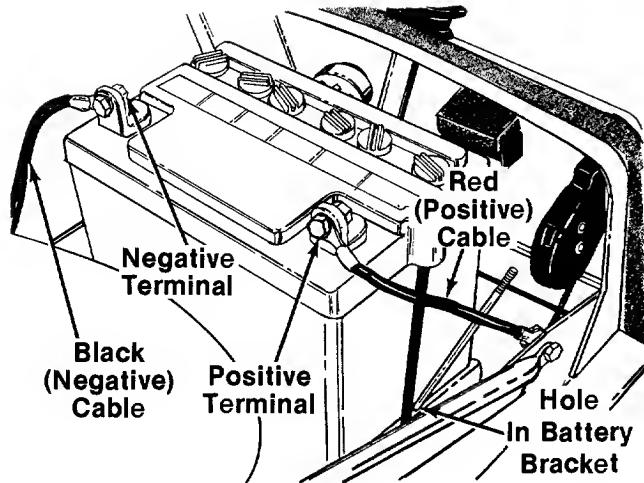
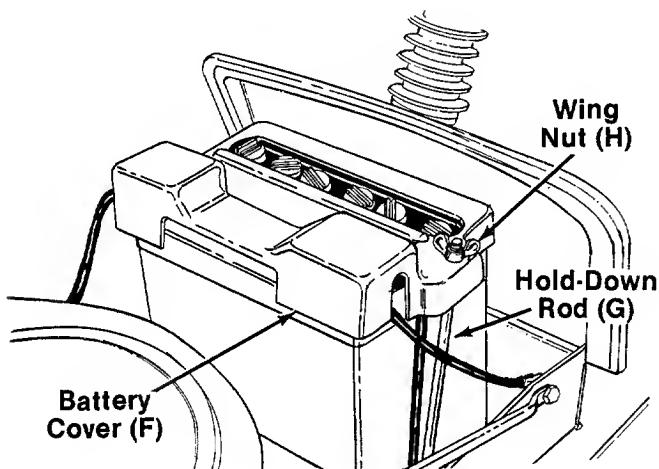

FIGURE 6.
FIGURE 7.
2. Place the battery in the lawn tractor so that the positive terminal is facing the left side of the unit. See figure 6.
3. Slide the square nut (provided with battery hardware) into the positive (+) terminal. Place the positive (heavy red wire) cable on the positive terminal. Secure with screw provided. See figure 6.
5. Hook one hold-down rod (G) into the hole in the edge of the battery bracket beside the battery. See figure 6. Place the battery cover (F) in position over the hold-down rod. Secure with wing nut (H). Attach other hold-down rod to the other side of battery cover in the same manner. See figure 7.